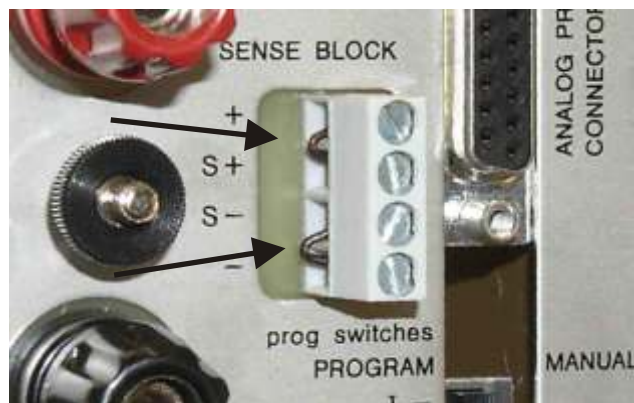

fig. 4 - 20
- Check connections on **SENSE BLOCK** (on rear panel). For normal operation there should be a link between + and S+ and between - and S-. See also fig. 4 - 20. When remote sensing is used, check the wires of the sensing.